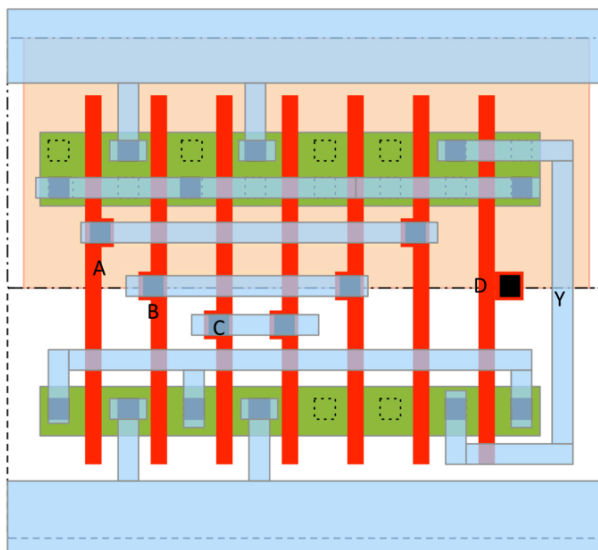

Figure 8.3: The layout for a 4-input static CMOS gate.
- b) In Figure 8.3 is the layout for a compound static CMOS implementation of a 4-input logical function. Draw the circuit schematic for the gate and find the Boolean expression for the logical function. (5 p)